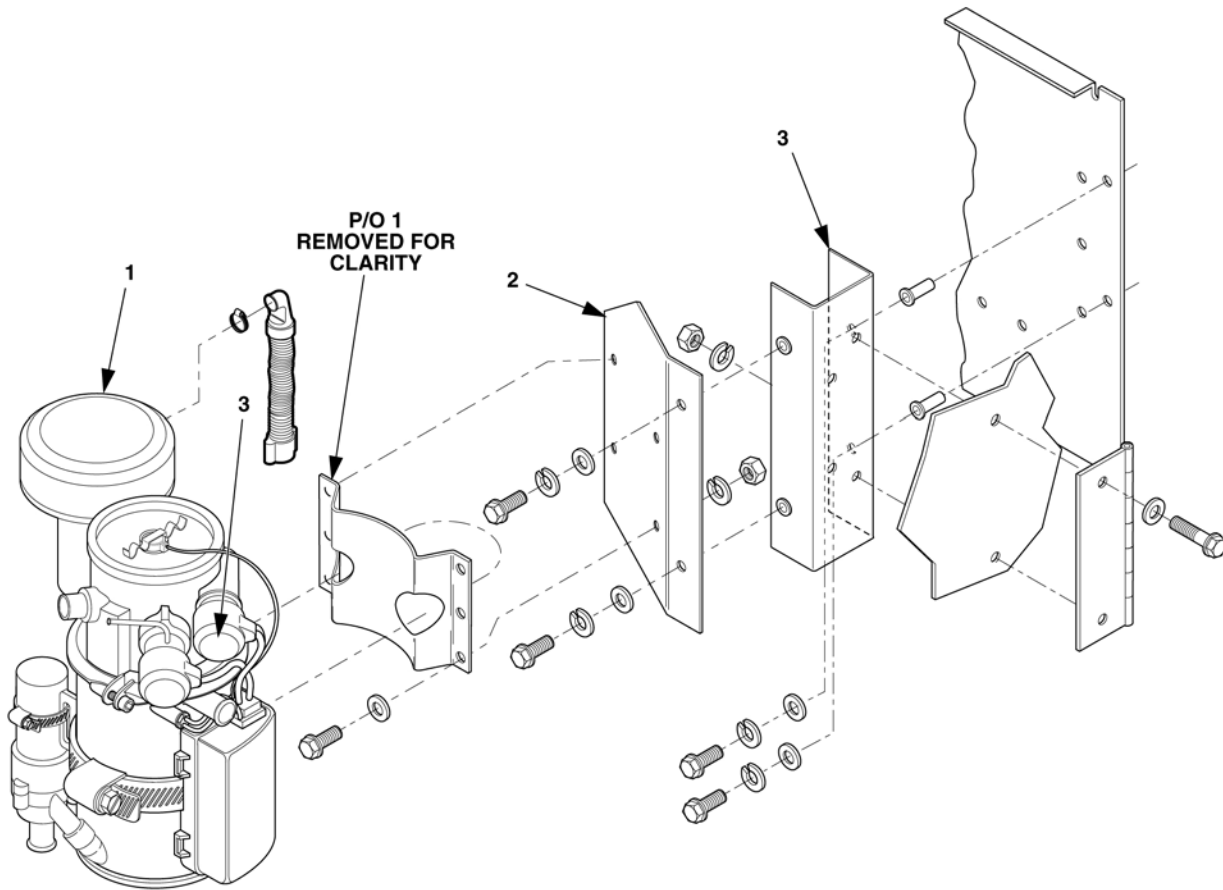

Figure 4-39. Heater Assembly Removal.
19. Remove heater assembly (1), Figure 4-39, mounting plate (2), bracket (3), and hardware from left side control box panel, and reattach top hinge and lower hinge and existing screws in accordance with TM 9-6115-642-24.